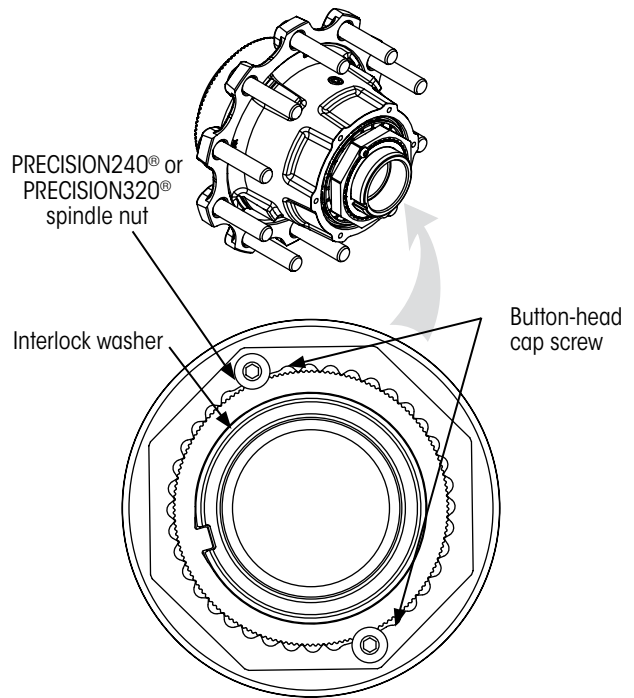

Figure 7: Button-head cap screw on PRECISION240® or PRECISION320® nut system
4. Using a hex key (TOOLS REQUIRED on page 6), remove button-head cap screws from interlock washer Figure 7.